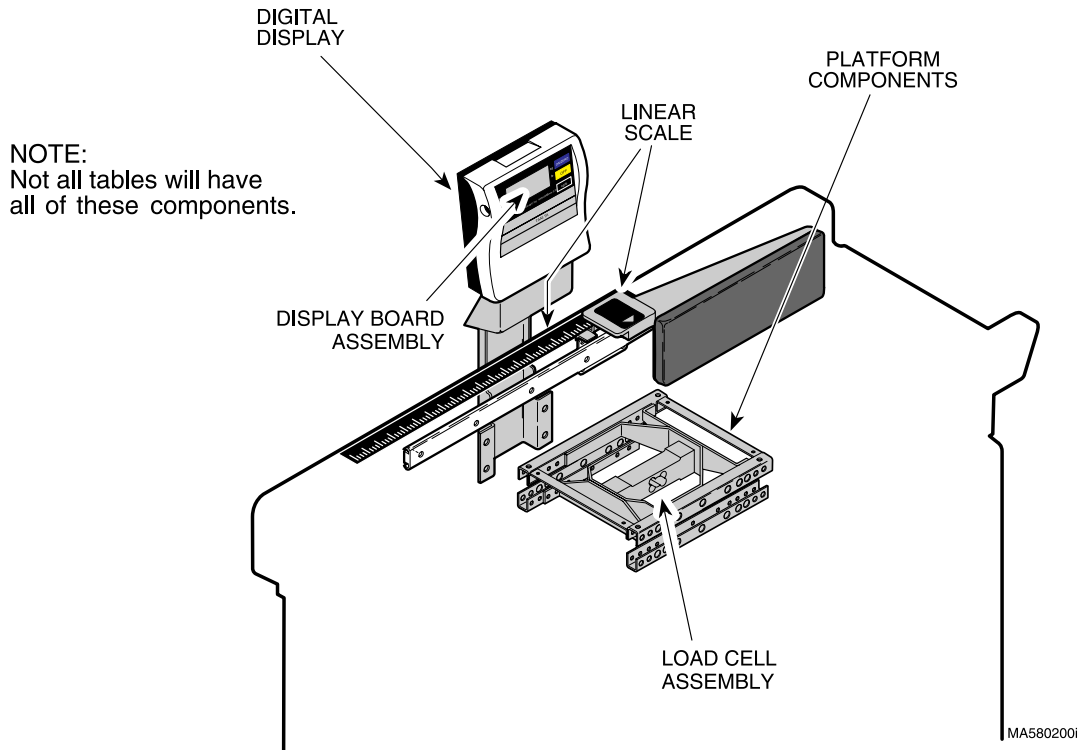

Figure 1-1. Major Components
A. General Description (See Figure 1-1).
The major serviceable components of the 409-004 table (table with mechanical scale) are the beam scale components which include the "0" balance screw & weight, platform components, linear scale, and table top locking mechanism. The major serviceable component of the 409-005 table (table without mechanical scale) is the linear scale (See Figure 1-1).
The major serviceable components of the 409-006 table (table with digital scale) are the digital display (which includes display board assembly), platform components (which includes load cell assembly), and linear scale. The major serviceable component of the 409-007 table (table without digital scale) is the linear scale (See Figure 1-1).